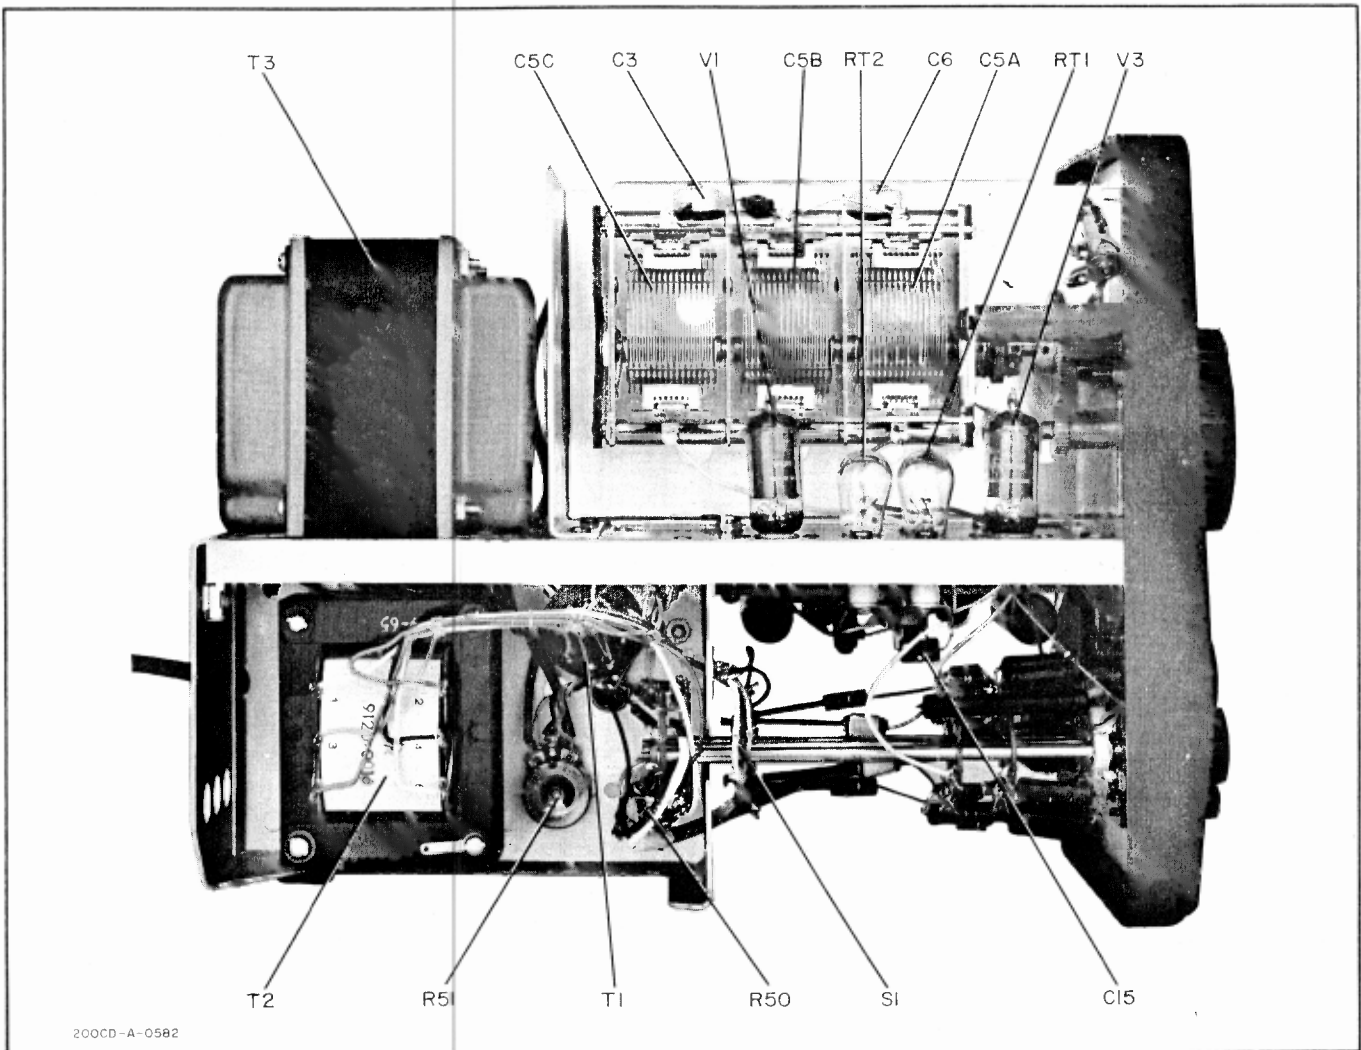

Figure 5-1. Left Side of Model 200CD (as viewed from the front)
c. Using compressed air, gently blow any accumulated dust out of the tuning capacitor plates (C5). See figure 5-1.
5-19. The amplitude stabilization lamps operate well below their rating and should have a long life, unless they are damaged by severe mechanical vibration. When RT1 or RT2 (see figure 5-1) are replaced, reset output voltage (paragraph 5-38).
5-21. The tuning capacitor, C5 A, B, C (shown in figure 5-1), should not be loosened unless absolutely necessary, since doing so may cause misalignment of the tuning capacitor shaft with the shaft extension to the gears. If C5 A, B, C has been removed or loosened for any reason, it should be readjusted mechanically before any electrical adjustment is attempted. In some cases, due to slippage, the tuning capacitor will not mesh far enough to allow perfect calibration at the extreme low end of the dial. When correctly set, the edge of the insulation protruding from the rotor plate spacer on C5 should line up with the top-most stator spacer when the dial is set fully clockwise.